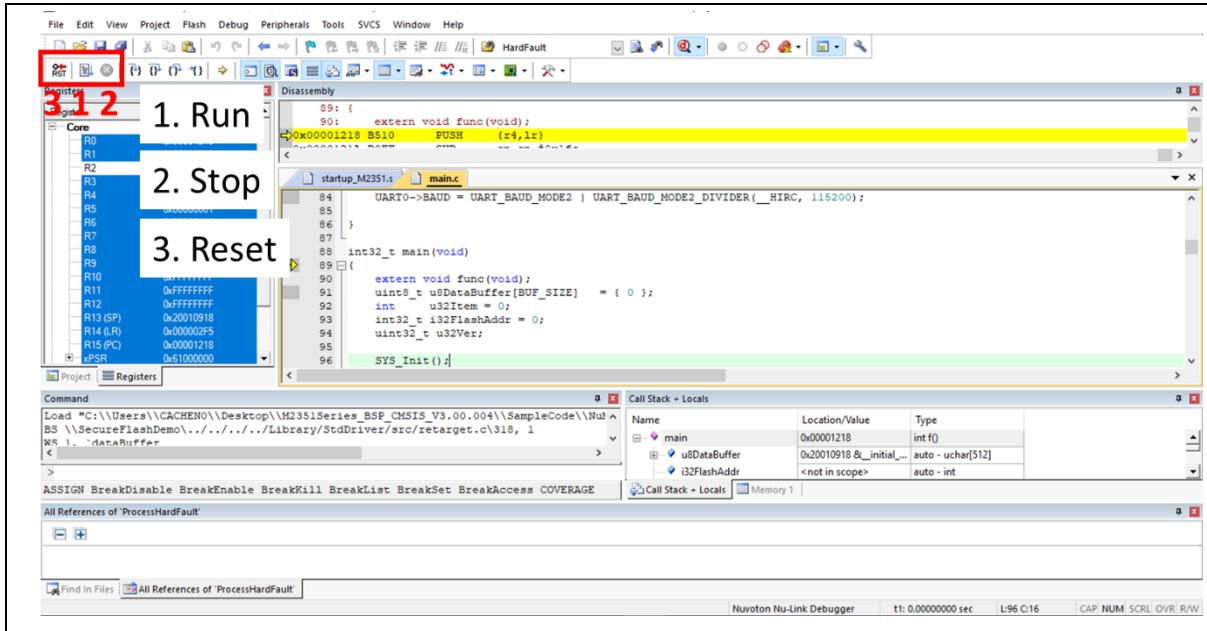
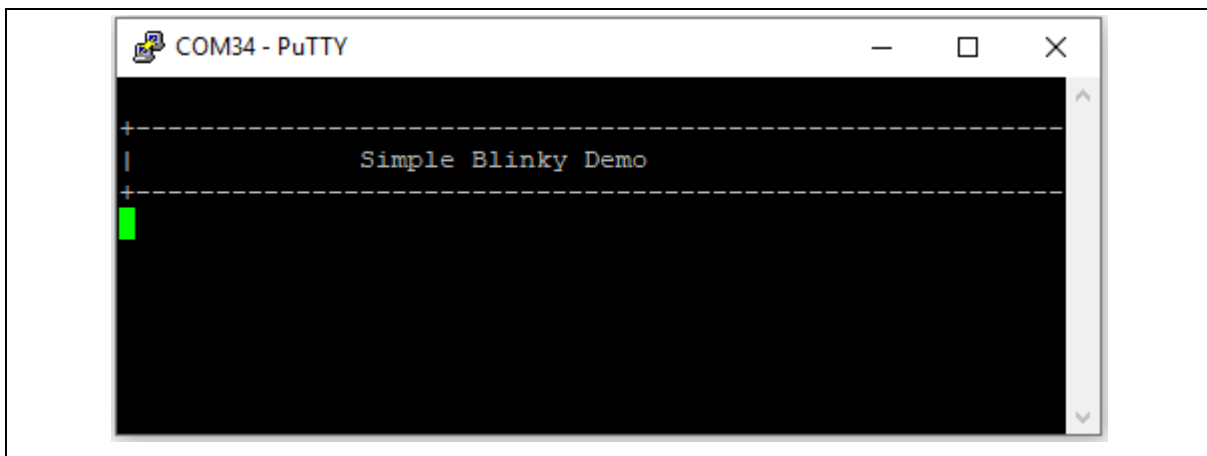

Figure 4-11 Keil MDK Debug Mode
Figure 4-12 Debug Message on Serial Port Terminal Windows
- Figure 4-11 shows the debug mode under Keil MDK. Click “Run” and the debug message will be printed out as shown in Figure 4-12. User can debug the project under debug mode by checking source code, assembly language, peripherals’ registers, and setting breakpoint, step run, value monitor, etc.